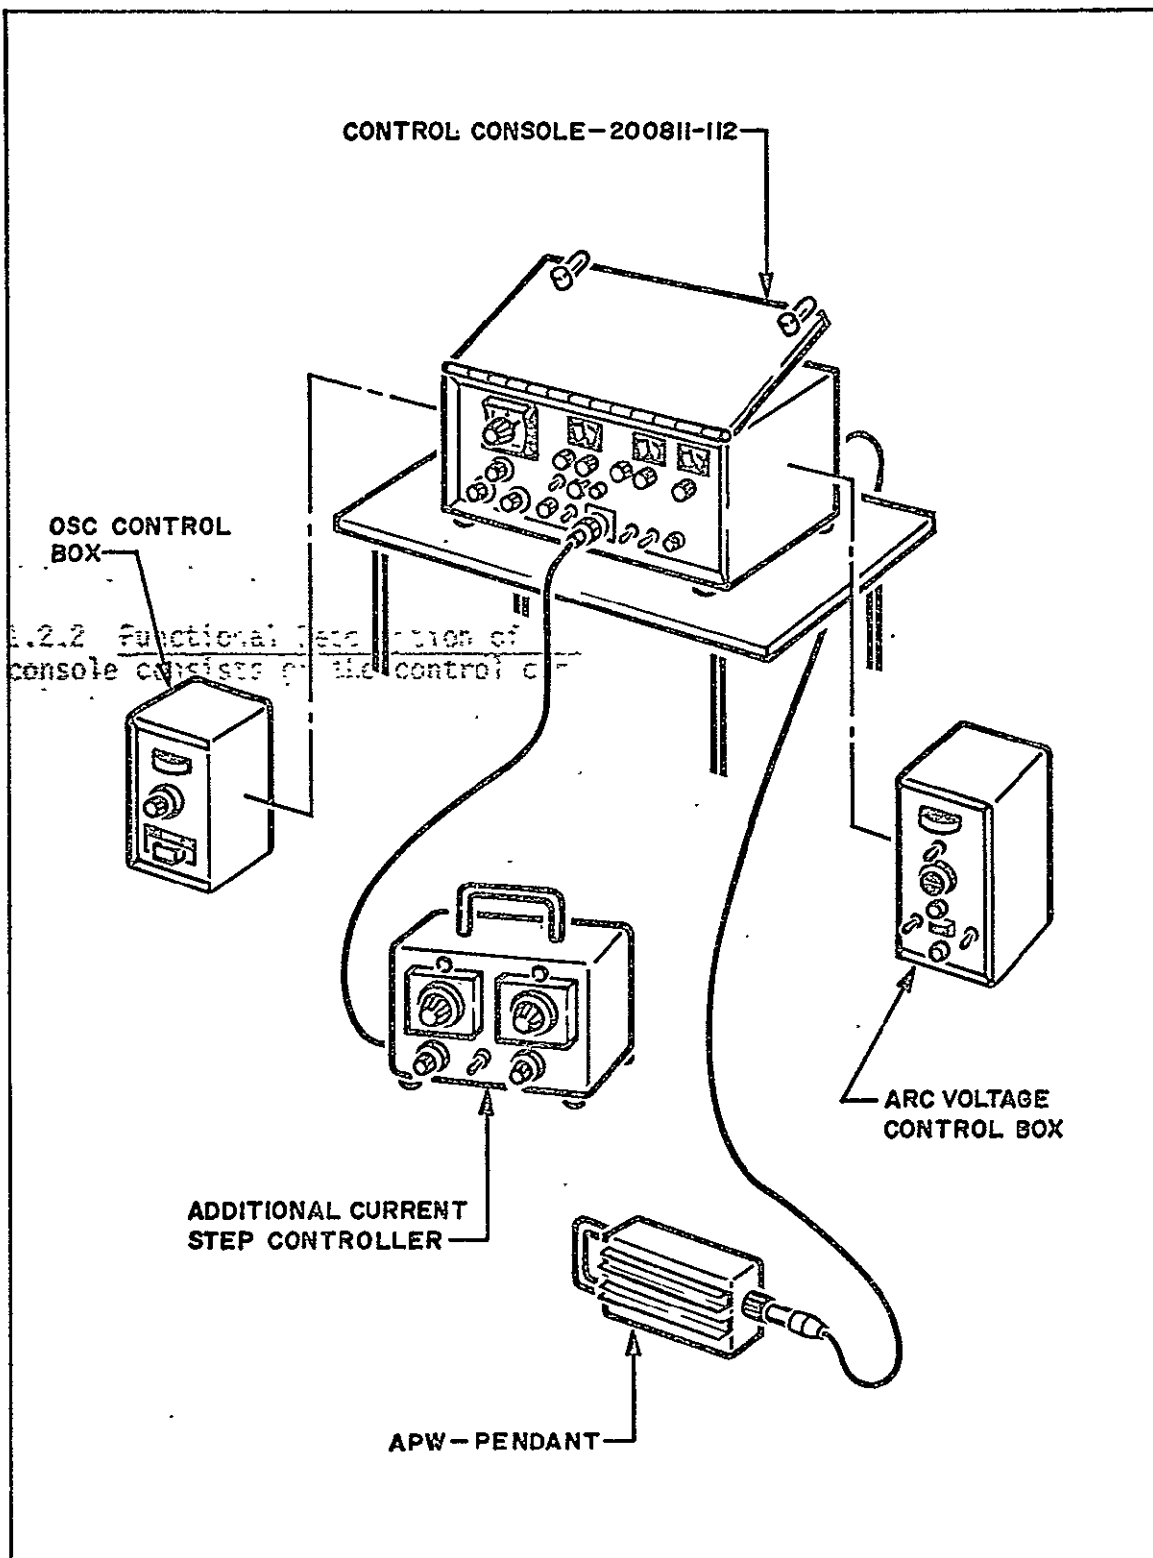

Figure 2. APW Control Console.
1.2.2 Functional Description of the Control Console, Figure 2.- The control console consists of the control console unit with attached oscillation and voltage control boxes, a front panel (attachable) plug-in additional current step controller, and a rear panel (attachable) remote operator APW-3 pendant. The control console functions as an automatic time sequencing and current order programming device.